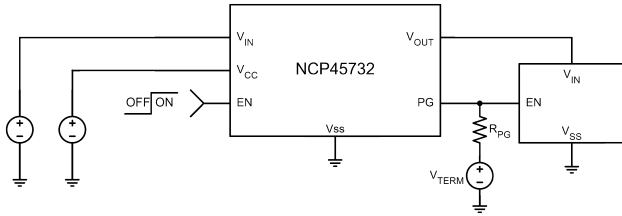

Figure 27. Guaranteed-by-Design Power Sequencing Example
The NCP45732 device has a power good output (PG) that can be used to indicate when the gate of the MOSFET is fully charged. The PG pin is an active-high, open-drain output that requires an external pull up resistor, R_{PG} , greater than or equal to 100 k Ω to an external voltage source, V_{TERM} , that is compatible with input levels of all devices connected to this pin, as shown in Figure 27.
The power good output can be used as the enable signal for other active-high devices in the system, as shown in Figure 27. This allows for guaranteed by design power sequencing and reduces the number of enable signals needed